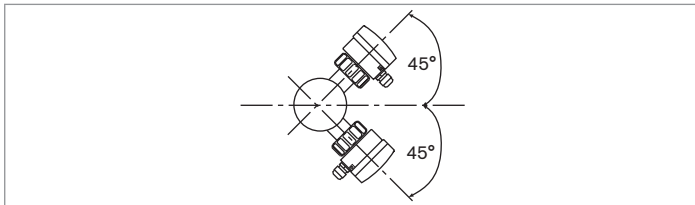

Fig. 5 : Mounting angle on the pipe
- Preferably install the device at a 45° angle to the horizontal centre of the pipe to avoid having deposits on the electrodes and false measurements due to air bubbles (see Fig. 5).